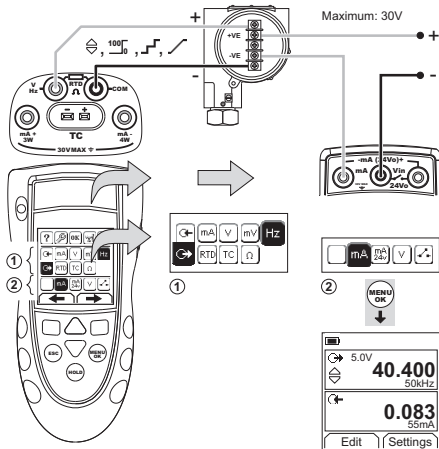

**Figure 9: Example Configuration - To Measure/Simulate the Temperature (°C/°F) or mV Values of a TC**
Attach the TC wires to the applicable TC mini-connector (Figure 9). The wider blade is the negative. Then attach the connector to the instrument.
- 1. Connect the instrument (Figure 9) and, if necessary, adjust the Set Up (Table 1).